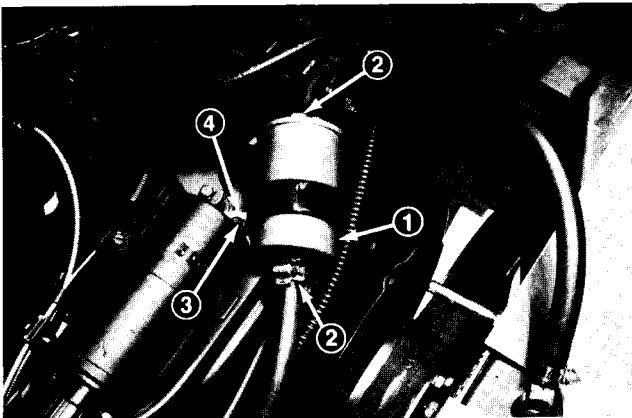

Figure 13
1. Clamp both fuel lines that connect to the fuel filter (Fig. 13) so gasoline cannot drain when the lines are removed from the filter.
2. Loosen the hose clamps (Fig. 13) at both ends of the filter and pull the fuel lines off the filter.
3. Remove the capscrew and lockwasher holding the filter clamp to the engine (Fig. 13). Slide the filter out of the clamp.